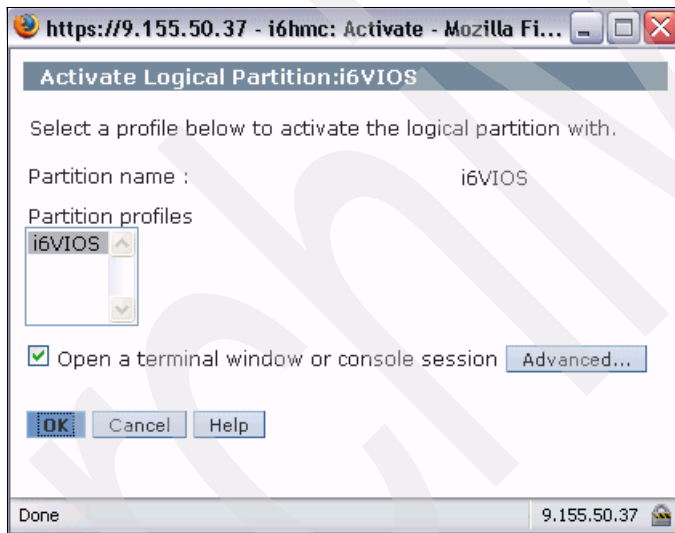

Figure 6-45 Activate Logical Partition dialog
5. Select **OK** (as shown in Figure 6-45) to proceed to activate the VIOS partition in SMS boot mode while having a terminal session window opened.